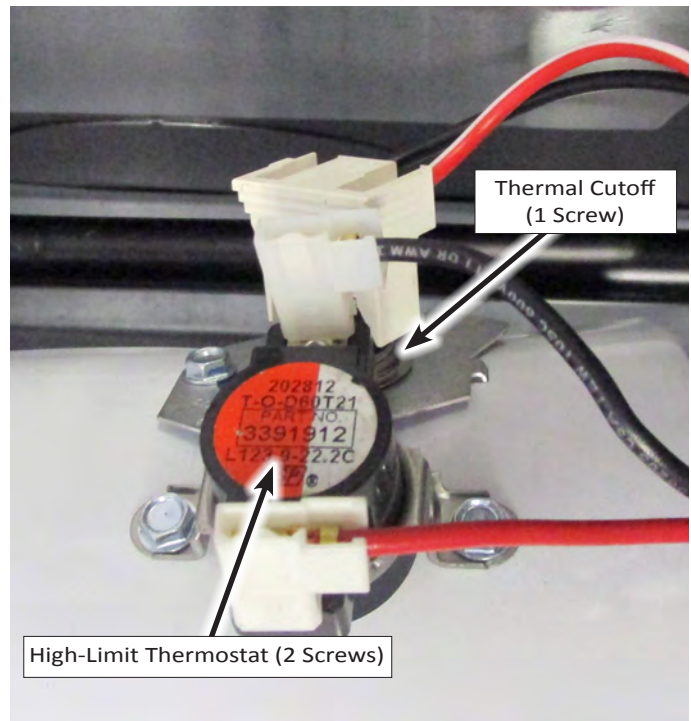

Figure 5 - Gas Burner Thermals
7. To remove the High-Limit Thermostat or the Thermal Cutoff (see Figure 5):
- a) Disconnect the two (2) wire connectors from the component terminals.
- b) Remove the two (2) screws from the High-Limit Thermostat, or the single screw from the Thermal Cutoff. Remove the component from the venturi.